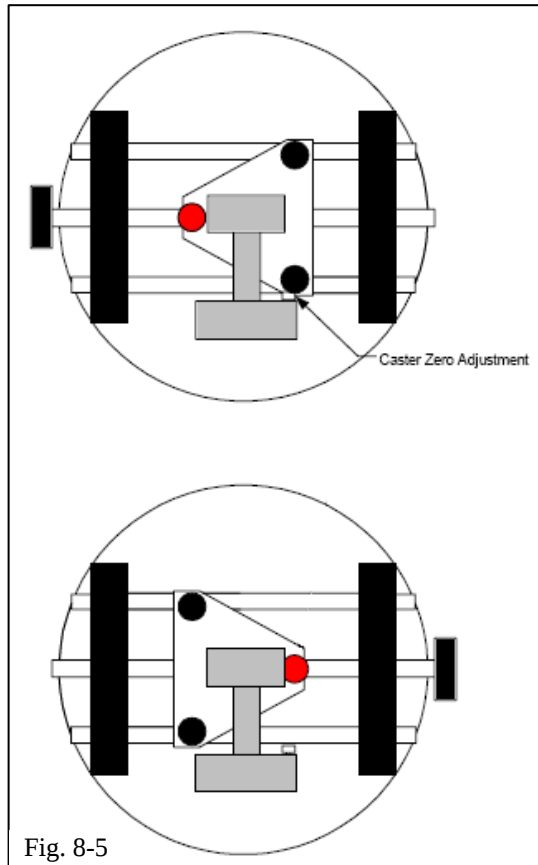
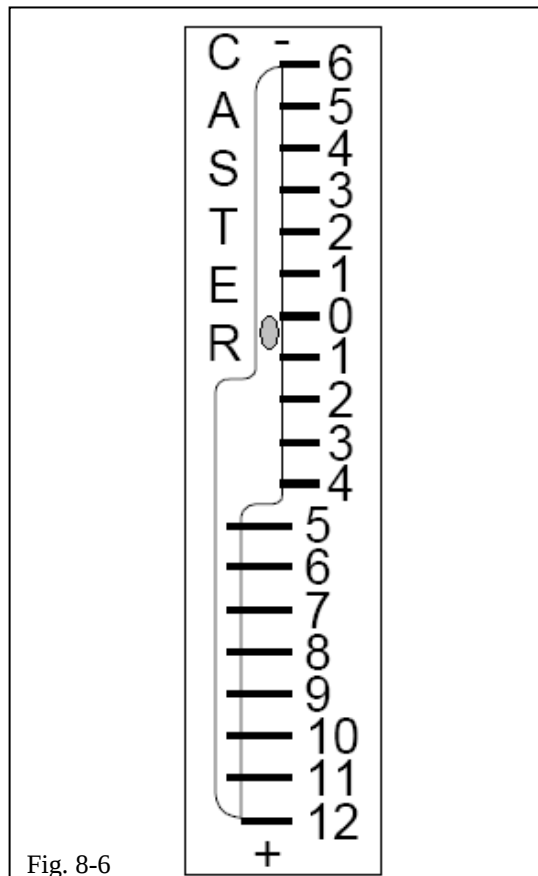

Fig. 8-5
Fig. 8-6
- (1) Place the TL-30 on the disc extending from the wheel clamp.
- (2) Level the TL-30 using the SAI scale on the top of the post. Make sure the TL-30 can move easily so that it stays relatively level when the wheel clamp is rotated.
- (3) Rotate the wheel with the clamp until the installation knob is at the 6 o'clock position. Set the caster bubble to zero on the caster scale (see Fig. 8-6); this is done with the caster adjustment knob which is located on the body of the TL-30 (Fig. 8-3).
- (7) Rotate the wheel $\frac{1}{4}$ turn to the left, so the installation knob is at the 9 o'clock position (Fig. 8-5).
- (8) Level the TL-30 and set the caster bubble to zero with caster adjustment knob.
- (9) Rotate the wheel $\frac{1}{2}$ turn, until the installation knob is at the 3 o'clock position.
- (10) Level the TL-30 and read the number on the caster scale.
- (11) Adjust the caster bubble to the point halfway between 0 and the current reading using the two BLACK knobs on the wheel clamp.
- (12) Rotate the wheel until the installation knob is at the 12 o'clock position. Level the TL-30 and adjust the caster knob until the caster bubble reads zero (Fig. 8-6).
- (13) With the TL-30 held in a level position with one hand (do not grasp or hold tightly), rotate the wheel one full turn while watching the caster bubble. The bubble should not move more than $\frac{1}{8}$ of a bubble. If the bubble does move, repeat the run out procedure.
- (14) Place TL-30 back onto the cart.